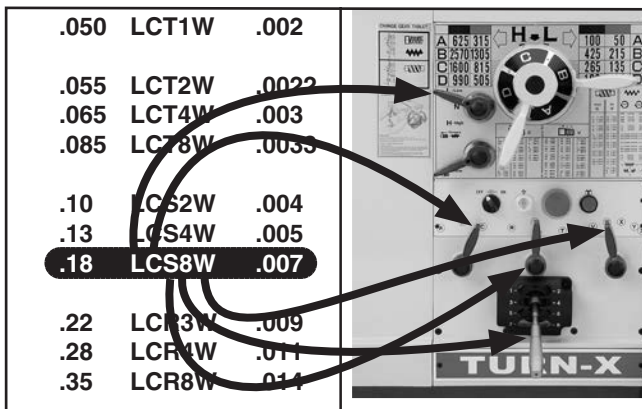

Figure 75. Power feed controls positioned for 0.18 mm/rev.
- Position the controls as directed by the configuration string as follows (see **Figure 75**):